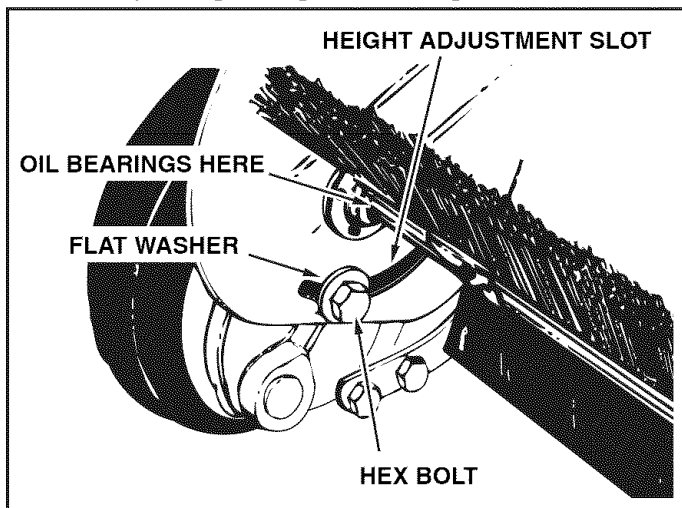

FIGURE 21
- Lubricate the brush shaft bearing twice a year with a few drops of light weight oil. See figure 21.